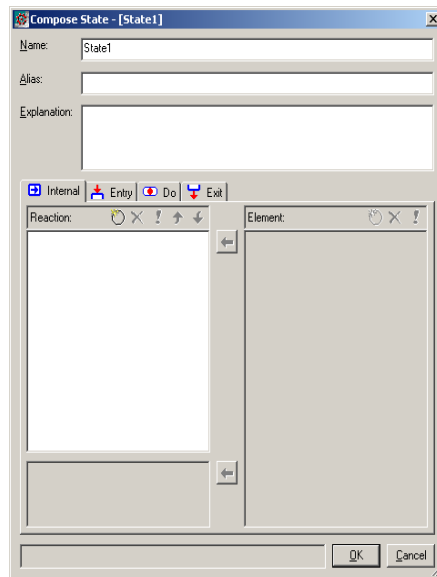

Figure 51: Compose State dialog box
- 2 In the statechart diagram view, double-click the state to compose. Or click the state, open the pop-up menu, and choose **Compose State...**. A Compose State dialog box is displayed. See *Figure 51*, page 68.